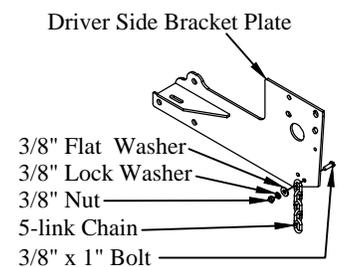

Figure 4: Chain-up feature hardware.
- Install** the 5-link chain on the driver side bracket plate with a 3/8" x 1" bolt, flat washer, lock washer, and nut (Figure 4).